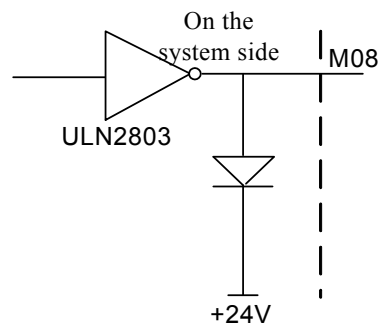

Figure 4-12-1 Internal Circuit for M08
- The internal circuit is as shown in Figure 4-12-1: